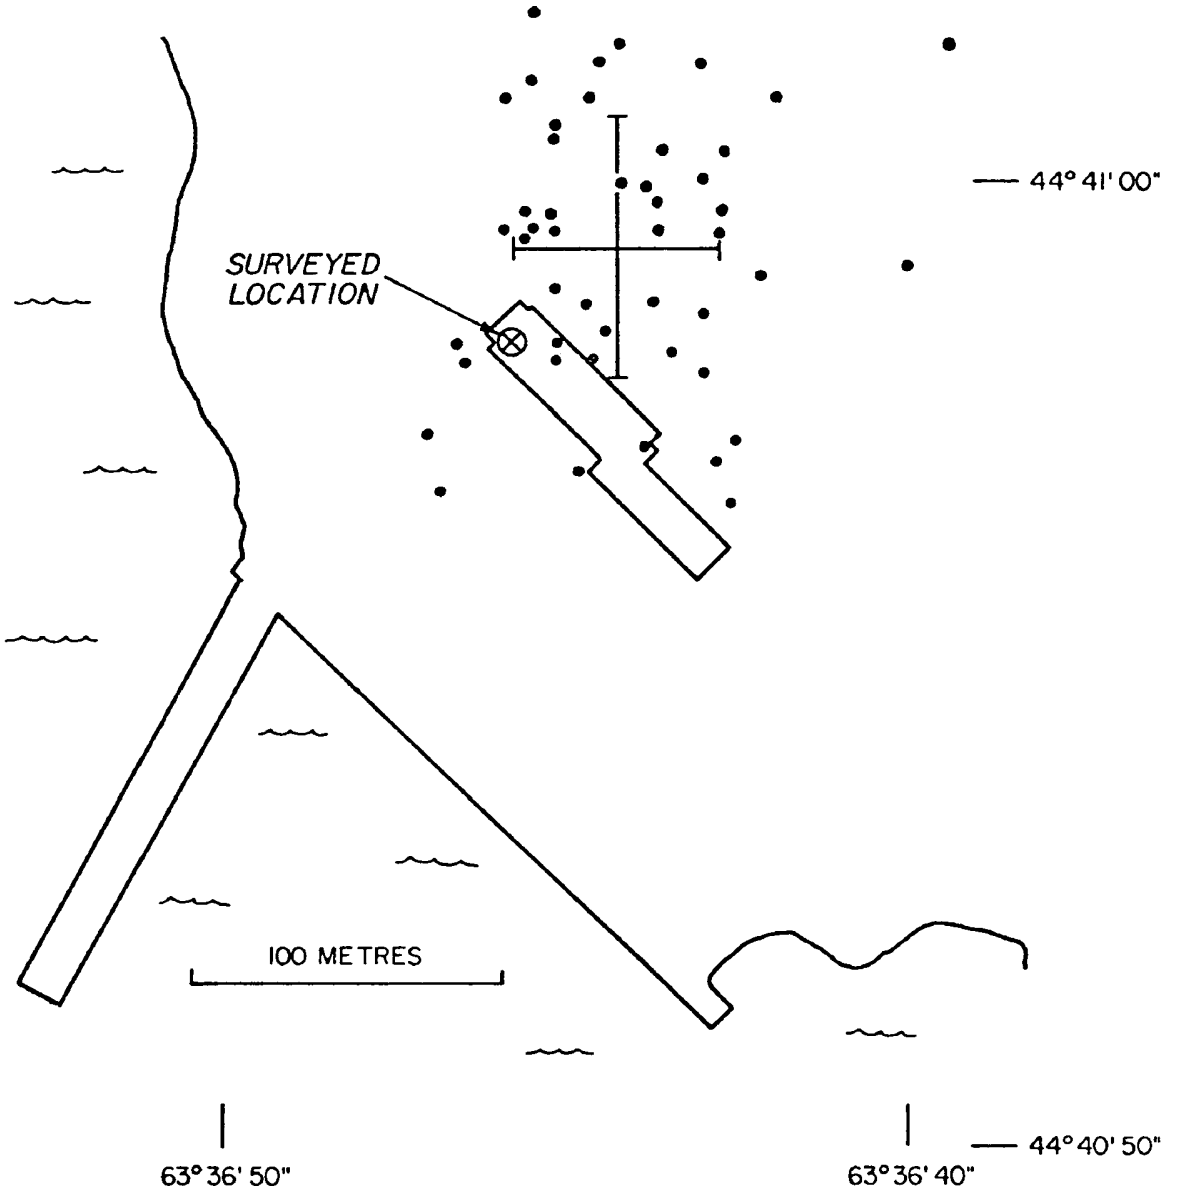

Figure 5
Figure 5 shows some results, about three years old, of tracking about 50 satellite passes at the Bedford Institute, and computing a separate receiver position from each pass. The surveyed antenna position and the mean satellite position are different because they are referred to different geodetic datums [Wells and Krakiwsky, 1971].
- FIGURE 5. Doppler satellite results at Bedford Institute [from Wells, 1969]